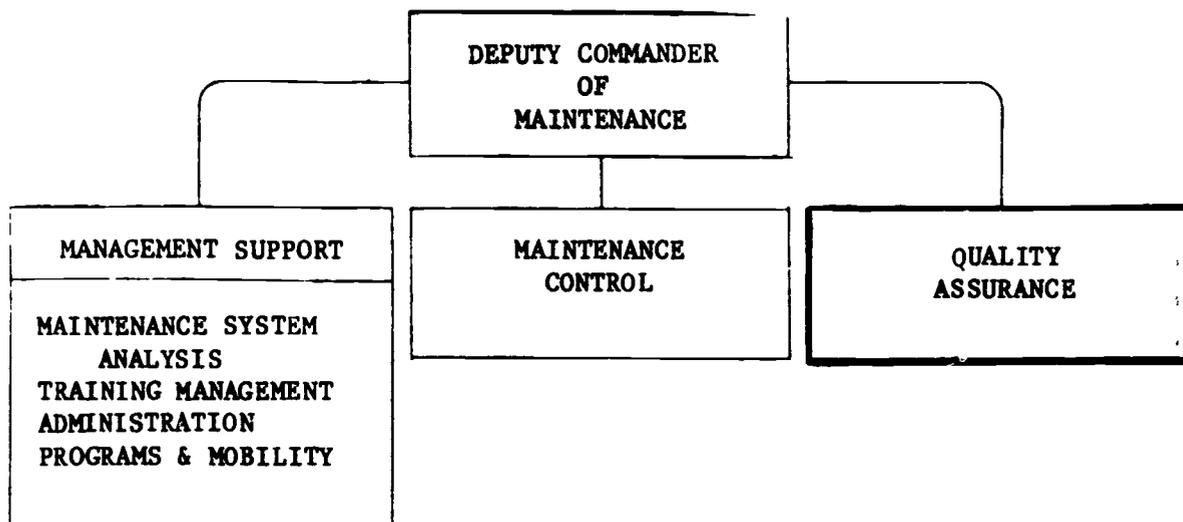

Figure 3. Quality Assurance, Third Staff Department of DCM.
Part of the DCM staff is Quality Assurance (QA) (see figure 3). As you may have guessed, the main job of QA is to make sure that the work done on the aircraft and the equipment is of a high quality. This means you do your best. The best way and only way to do a job is by the tech order. QA will make spot checks on the flightline and shops to make sure the TOs are being used by all maintenance personnel. If you have any questions on the information in the TOs, QA is the place to start. If there is any place in the TO that is in error, QA will look at those areas with you and help you fill out the right forms to fix the error. They also take care of a central Tech Order Library. So, if your shop does not have the TO you need, see your QC section; they should have it.